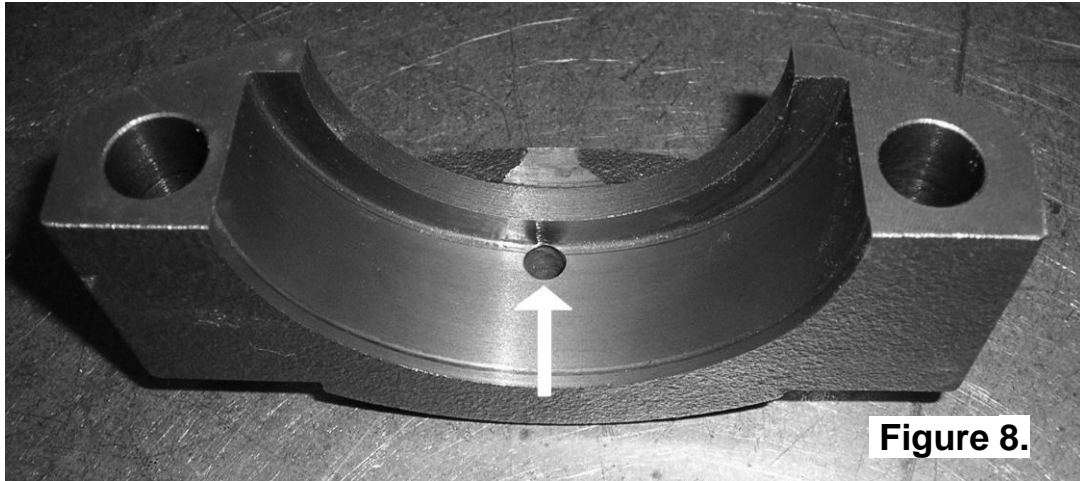

Figure 8.
- Using a pedestal drill, drill a 6mm [1/4"] hole through the bearing cap. (Fig.8.)